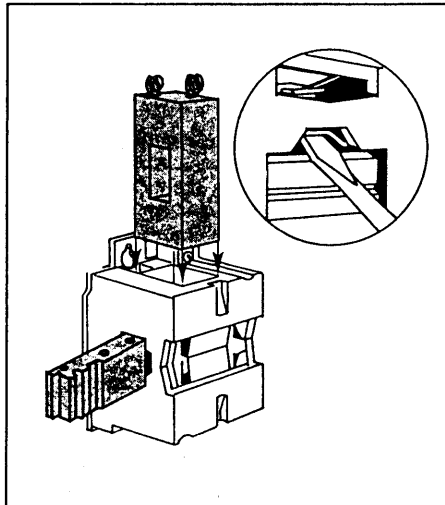

Figure 2.
4. Insert a screwdriver blade between magnet and magnet retaining clip. Twist blade to force retaining clip away from magnet. Push down on screwdriver, dislodging magnet; then applying firm pressure with screwdriver, push magnet through coil to position shown in Figure 2.